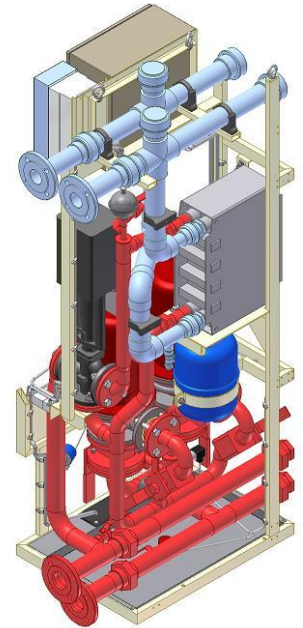

Figure 2.2-1
- Primary circuit, HXT070-PS01 (red colour in the Figure 2.2-1)
- Secondary circuit, HXT070-P002 (blue colour in the Figure 2.2-1)